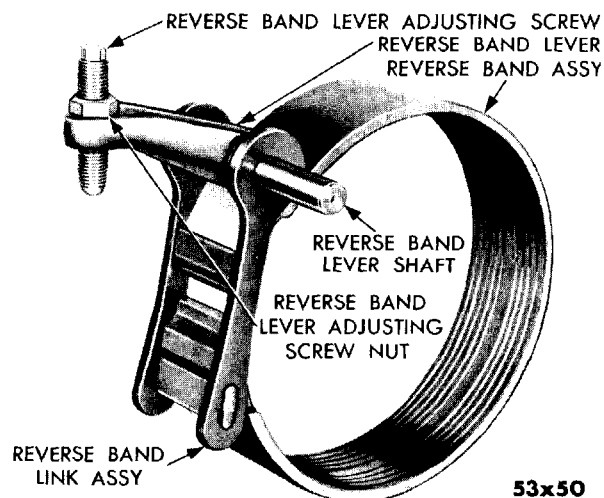

Fig. 38—Reverse Band Linkage
(1) Place the reverse band lever assembly in the reverse band link assembly and place in transmission case.
(2) Align the holes in the lever and link assemblies to shaft hole in transmission case. Slide the reverse band lever shaft into position from rear of transmission case.
(3) Place reverse band assembly into transmission case by rotating ends of band through relieved area in transmission case (Fig. 20). Hook end of band in link assembly. Compress band sufficiently to install the strut in the slots of the band and lever assembly. (Figure 38 illustrates assembly of reverse band linkage after installation in transmission case).